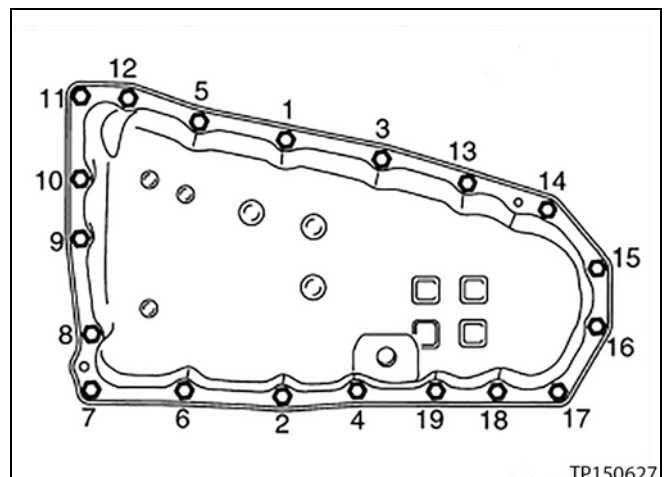

Figure 11D
14. Install the oil pan bolts (see Figure 11D).